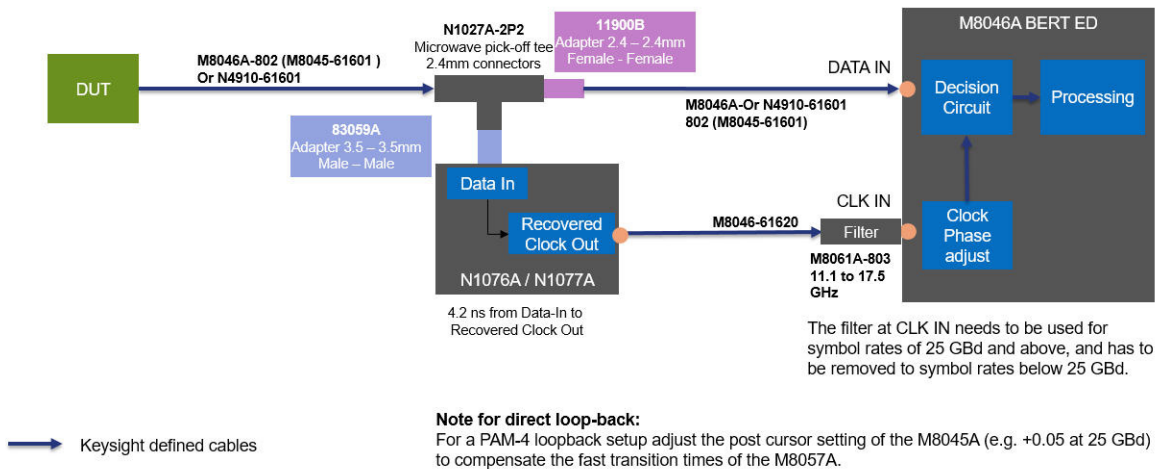

Figure 12 Recommended connection setup for N1076A/77A control
Figure 12 shows the block diagram depicting the recommended setup to connect an N1076A/77A clock data recovery module to the M8046A error detector module.
- If no internal error counter is available on the transceiver, an M8046A error detector should be employed to measure the BER of the lane under test. The clock signal use for the error detector should be extracted from the recovered signal (either provided by the DUT or extracted from another lane using an external CDR). See Figure 12.